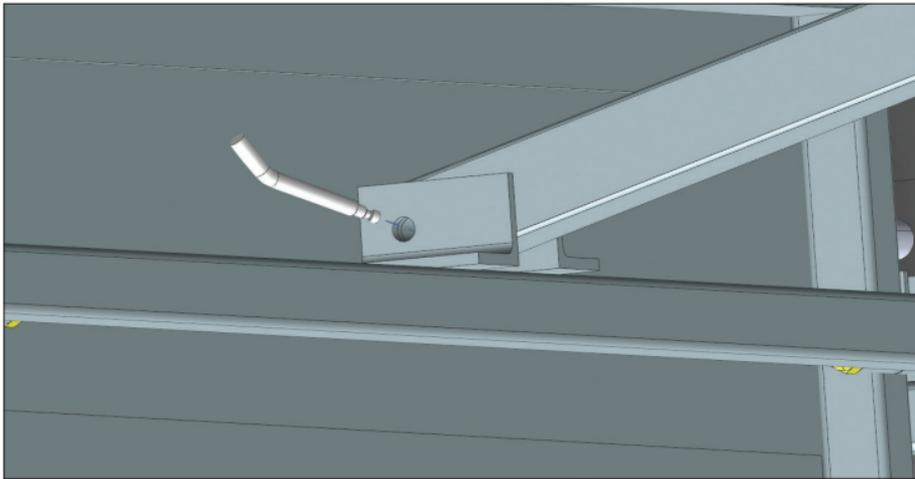
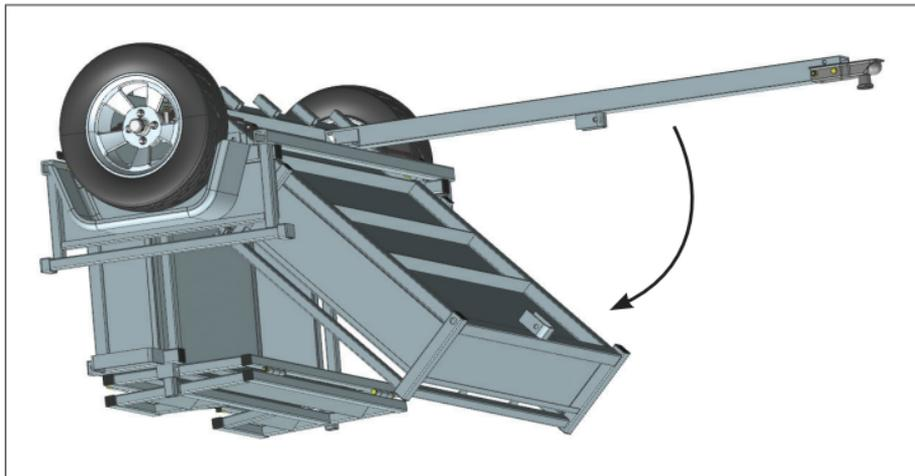
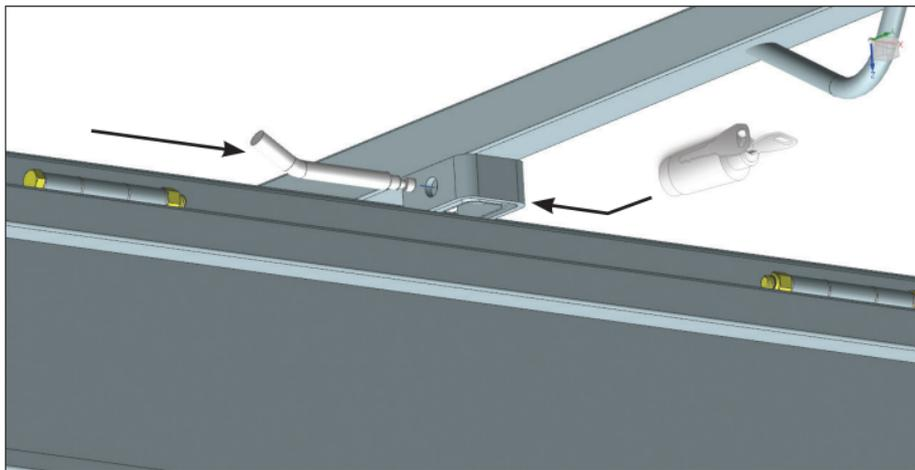

Figure 13: Remove the tongue pin
Figure 9: Lift up the front section
Figure 8: Tipping pin
To open the front section follow the instructions below. If necessary, consult Fig. 8 and Figures 13 to 15. Before opening the trailer, check to see if all the hitch pins are in position and if the trailer is tipped onto the stops at the rear section. Fig. 13
- 3.2. Open the anti-vibration latch, unlock then remove the tipping pin. Fig. 8
- 3.4. Put one foot on the tongue then lift and close the front section. Fig. 8 and Fig. 9
- 3.7. Unlock then remove the tongue. Fig. 13